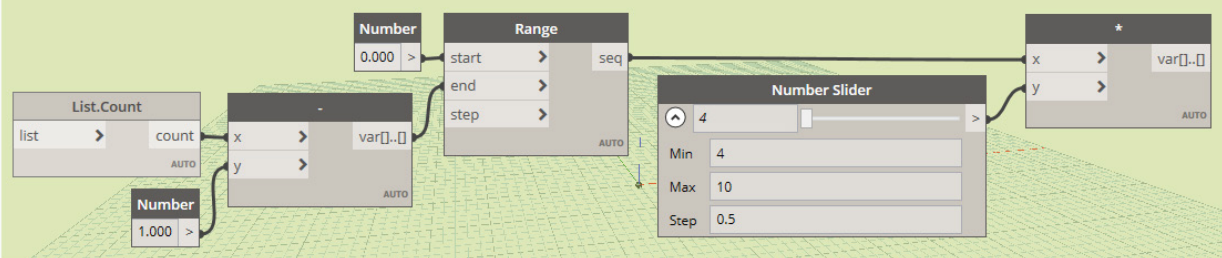

Figure 55
36. Position, wire and group the nodes as indicated in Figure 55.